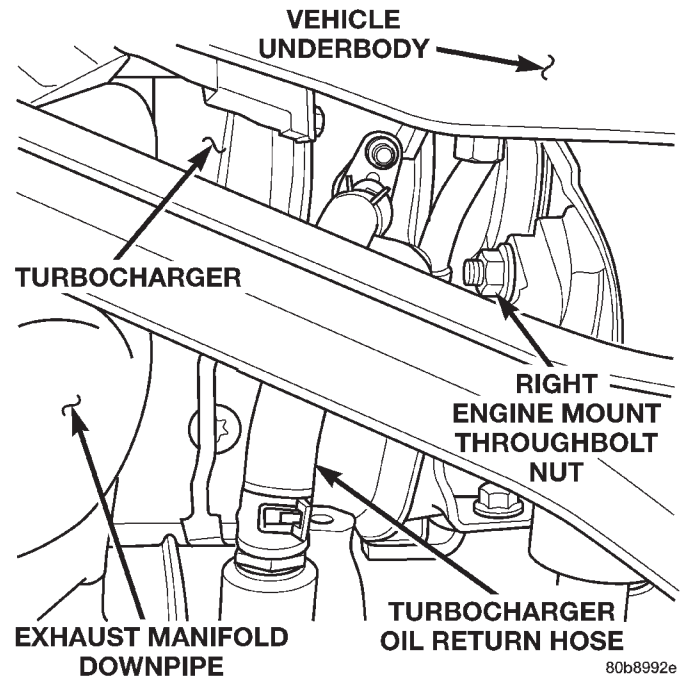

Fig. 2 Turbocharger Oil Return Hose — Position & Orientation
- (3) Remove the (2) right engine mount upper sill plate nuts.
- (4) Raise the vehicle on a hoist.
- (5) Remove the turbocharger oil return hose from engine block and plug (Fig. 2).
- (6) Remove the right engine mount through bolt nut only (Fig. 2). Do not remove the bolt at this time.